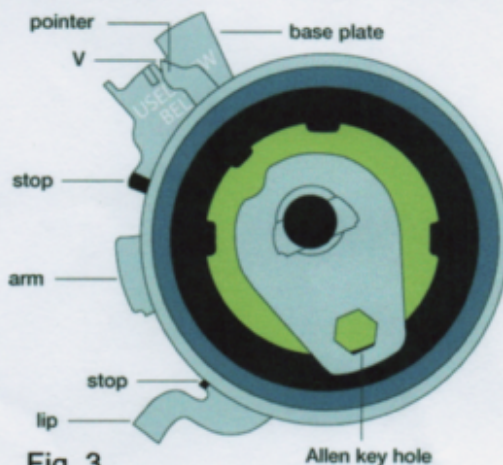

Fig. 3
14. Adjust tensioner (while holding the tensioner bolt in place), till pointer in line with V ("NEW" position); the Allen key hole has to be in +/- 5 O'clock position now (fig. 3)